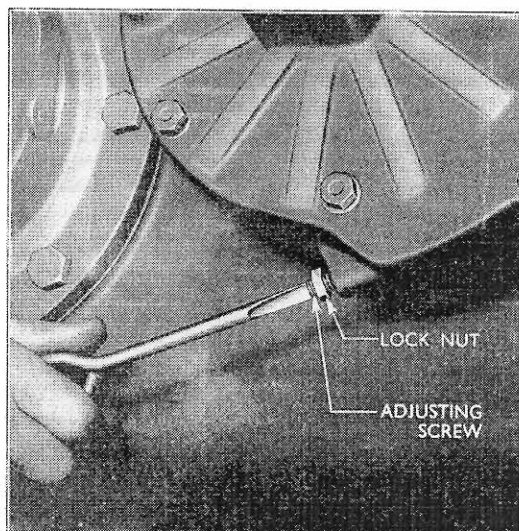

Fig. 13
1. Slacken the lock nut on the lower stop and tighten the adjusting screw (see Fig. 13) until the brake is fully locked.